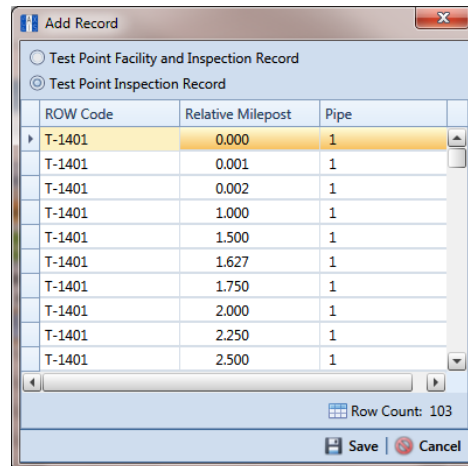

Figure 7-13. Add Record
- 5 Click **Add** to open the *Add Record* dialog box (Figure 7-13, page 199). Then continue with one of the following steps:
- Select a pipeline with the facility you want to add an inspection record. For example, pipeline *T-1401* and the facility at *Relative Milepost 0.000* are selected in the next figure (Figure 7-13, page 199).